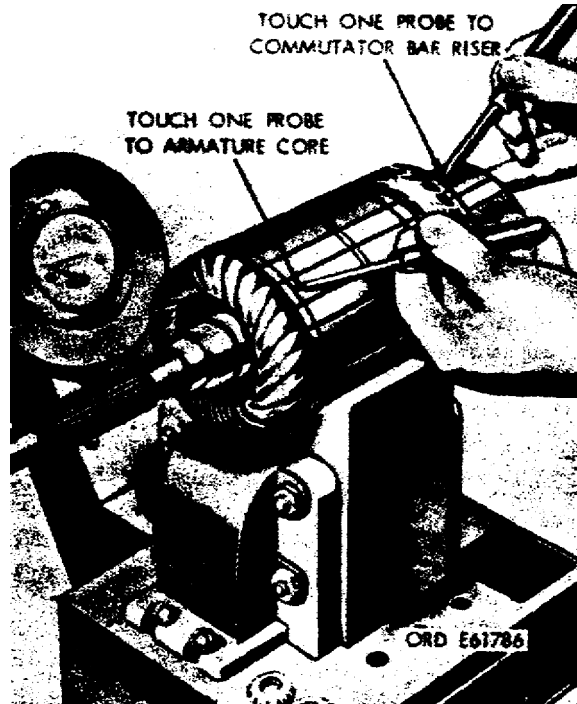

Figure 19. Armature ground checks.
(1) Figure 19 shows the test probes of the growler when checking for armature grounds. The probes are connected to a lamp and high voltage source. By touching one of the test leads to the armature core and the other to the commutator bar riser, the continuity is checked. Test all commutator bar risers in this manner. If the light glows at any time, the armature is grounded.